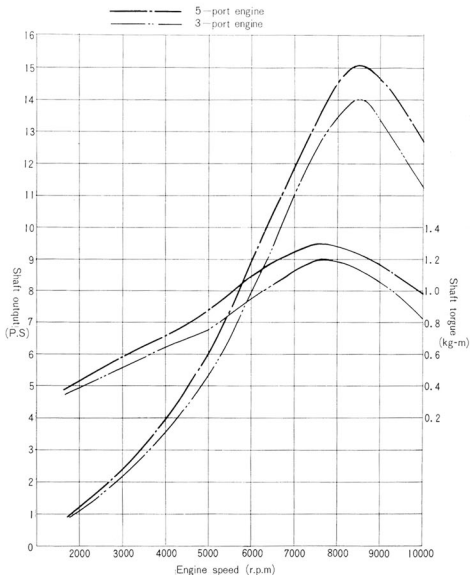

Fig. 3-3-1
The results of a comparison of the 5-port cylinder and a conventional 3-port cylinder by using the AS1(C) are given in Fig. 3-3-1.